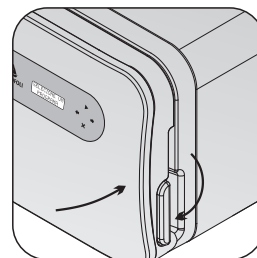

Fig.7
- e► Close the door of the autoclave pressing it against the chamber (pressure vessel) and move the handle all the way down (Figs. 7 and 8).